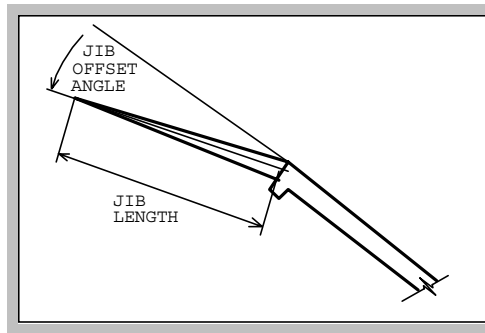

Figure 1
2. Press the **↑** and **↓** arrows to set **JIB LENGTH** (Fig.1, page 6).